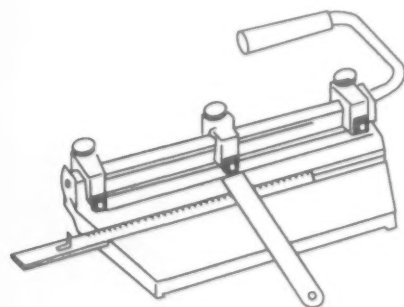

Figure 3 - Heavy Duty Hole Punch.
8. Place each tongue depressor in the center pusher of the classroom three hole punch. Punch holes in both ends of each tongue depressor. See Figure 3.